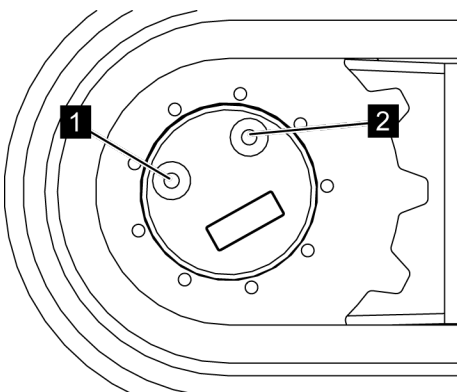

Fig. 142: Checking the oil level
6. ➤ Check the oil level visually. The gearbox must be filled with oil up to the lower edge of the threaded hole (Fig. 142/1).
7. ➤ If necessary, top up gearbox oil (Item no. 3917/0122)(☞ *Chapter 3 'Technical data' on page 43*). To do this, tip oil slowly through the hole (Fig. 142/2) until it reaches the lower edge of the threaded hole (Fig. 142/1).